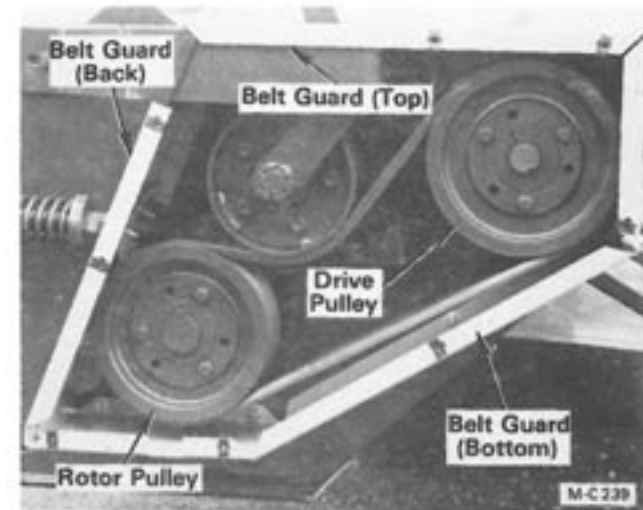

Figure 31
1. Remove the belt guard cover and place a straight edge across the face of the drive and rotor pulley, see Figure 31.